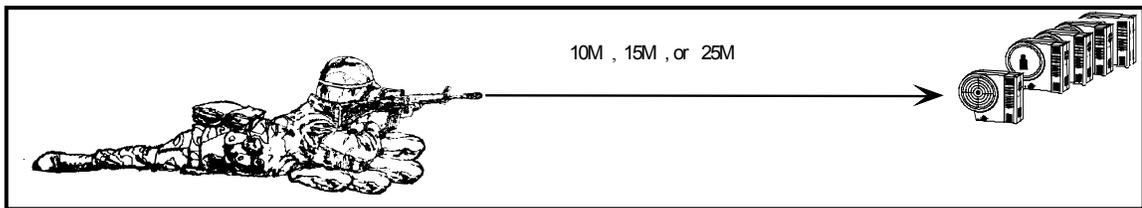

Figure C-2. Exercise 2.
Step 1. The soldier assumes a proper firing position (uses sandbags for supported position) (Figure C-2).